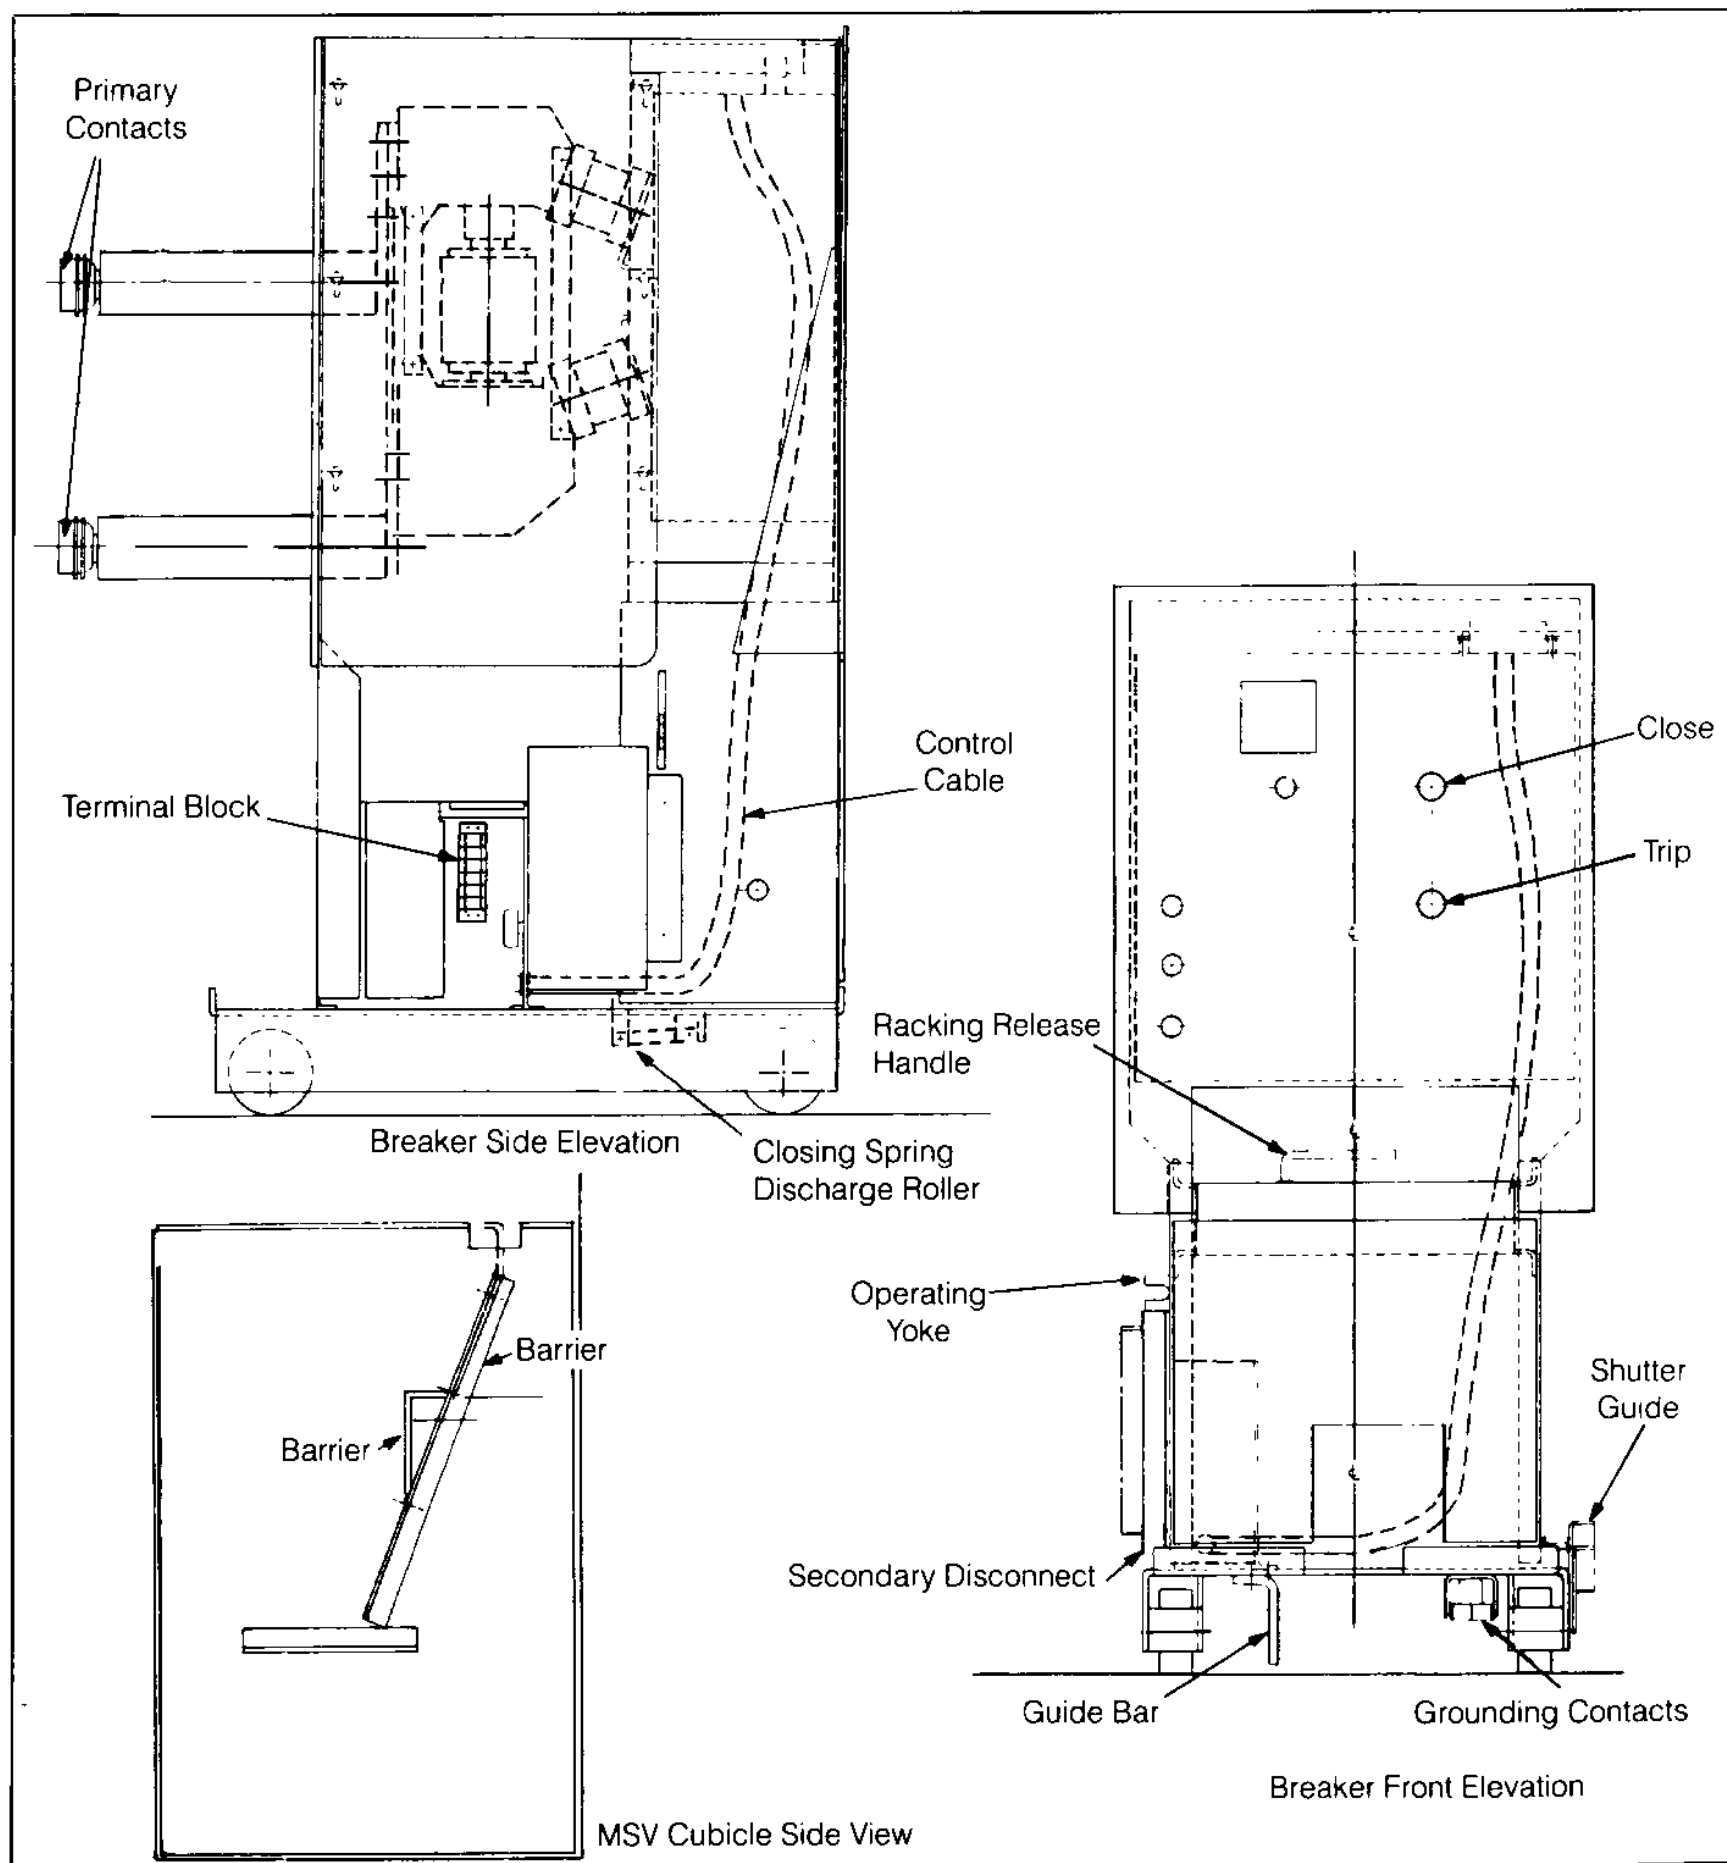

Figure 2a
1. Carefully remove packaging. Note: Vacuum breakers are normally supplied with their primary contacts open. Press "TRIP" (Red), "close" (black) and again "TRIP" (Red) push buttons to confirm this is true. See Fig. 2a & 2b Front elevations.
- 11a. (Lever type racking only) Note that with the breaker closed, that the racking release handle, (Fig. 2a and 2b.), cannot be raised. Open breaker by pressing trip button and note the racking lever may be freely raised.
18. During this racking exercise note the alignment of the stationary and movable secondary disconnects. Check also the alignment between the auxiliary switch bayonet on cubicle wall and operating yoke on breaker. See Fig. 2a and 2b or reference to the breaker operating yoke.
Typical front elevations and side elevations of the type MSV and FSV Vacuum Circuit Breakers are shown in figures 2a and 2b. The 5-MSV-250A circuit breaker has a front panel design about 4 $\frac{3}{8}$ " higher than as shown for use with type 'DG' ground and test devices. The cubicle barrier is about 4 $\frac{3}{8}$ " shorter for this design. The cubicle and breaker are not interchangeable without changing panels.